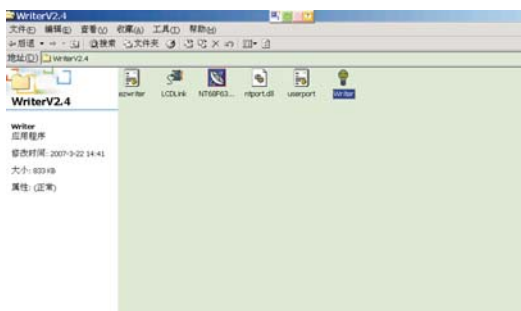

Fig. 3
- Step 1 : Make a folder in your PC as shown in Fig. 3.
- Step 2 : Copy ISP Software Easywriter.zip into your folder as shown in Fig.3.
- Step 3 : Unzip Easywriter.zip into your folder as shown in Fig. 3.